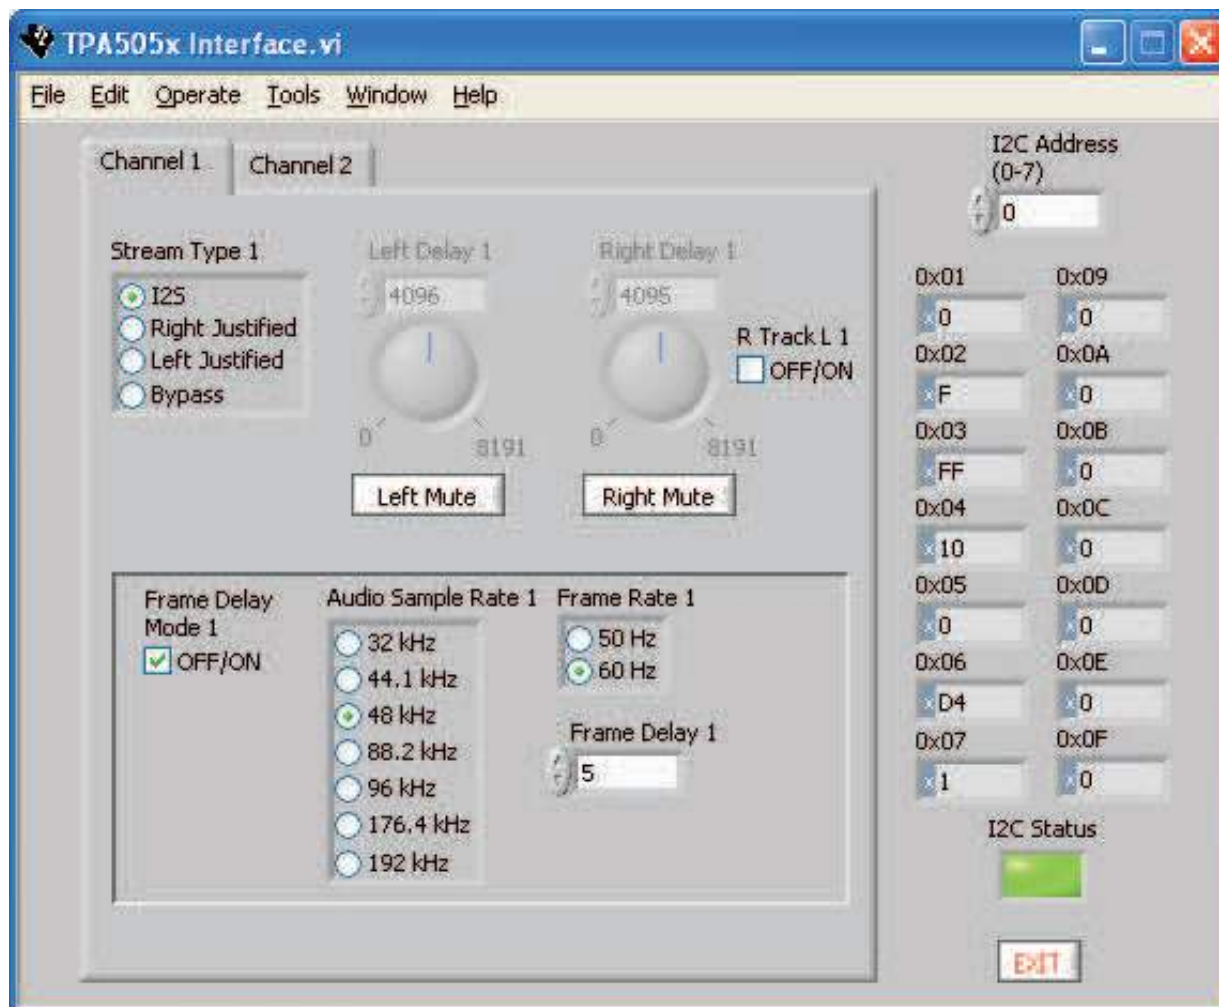

Figure 2. TPA5050 in I2S Mode With Frame Delay
5. The delay also can be controlled with the *Frame Delay* option. Simply click on the *Frame Delay Mode 1 ON/OFF* box, and the frame delay options become available. Frame delay mode affects both left and right channels simultaneously (see Figure 2).